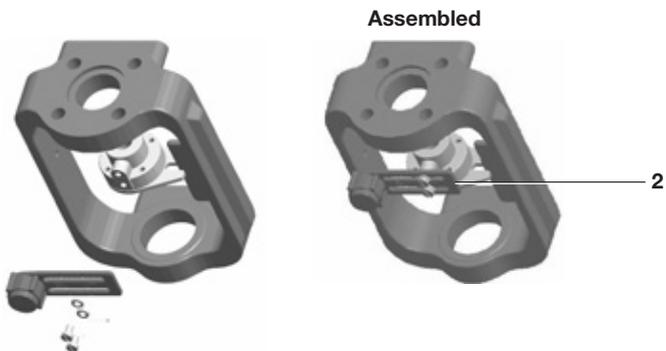
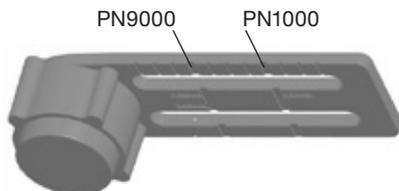

Fig. 19
Fig. 20 Bracket markings
**5.2.2** Slide the bracket (2) to the left or to the right (Figure 19) till the correct position is achieved. If you're using a Spirax Sarco actuator the correct position is impressed on the magnet bracket (Figure 20).